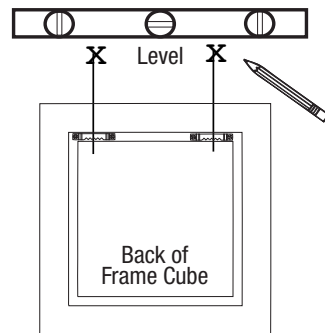

Figure 1
**STEP 1:** Select installation areas and mark the keyhole locations on wall the correct distance apart. Use a level to make sure the ledges will be straight, as shown in **Figure 1**.